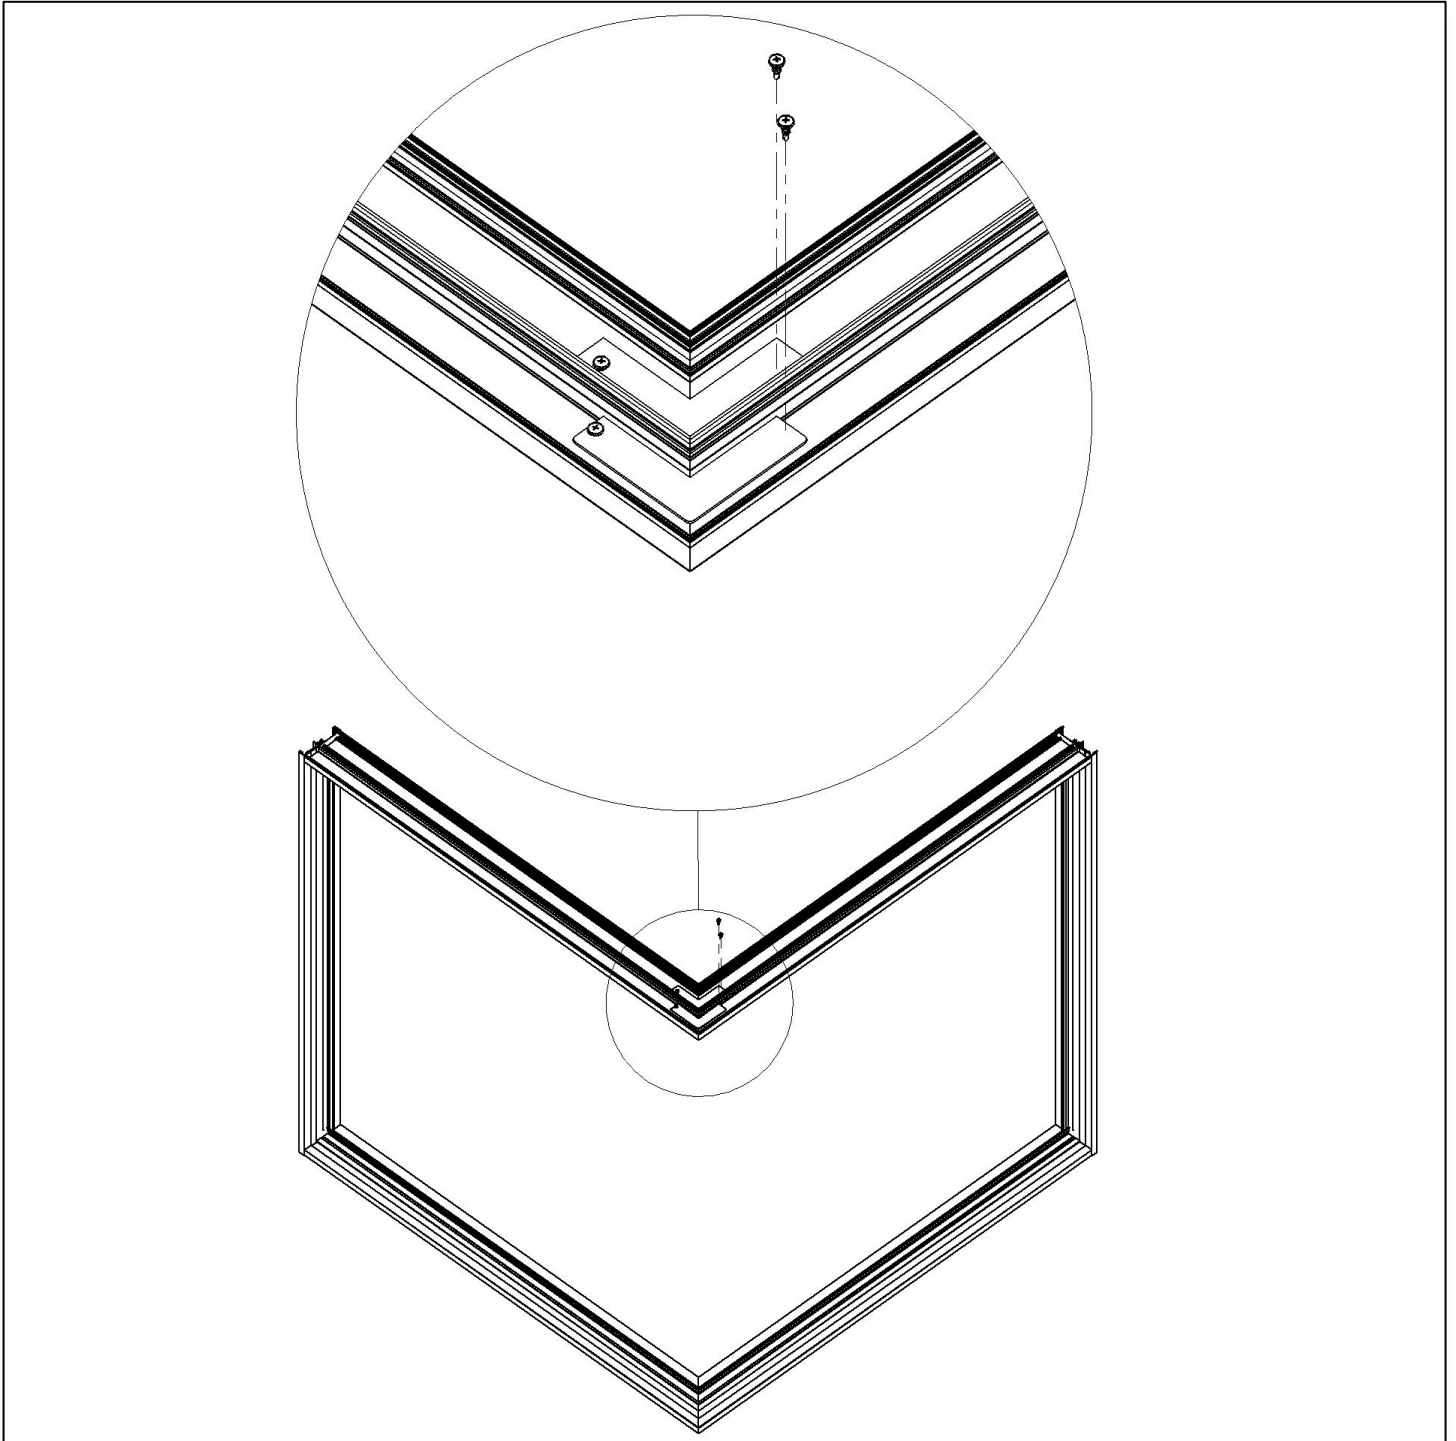

Fig. 2
2. Install the supplied corner keys in the head and sill miter cuts using #8-18 X 1/2" screws (see Fig. 2).